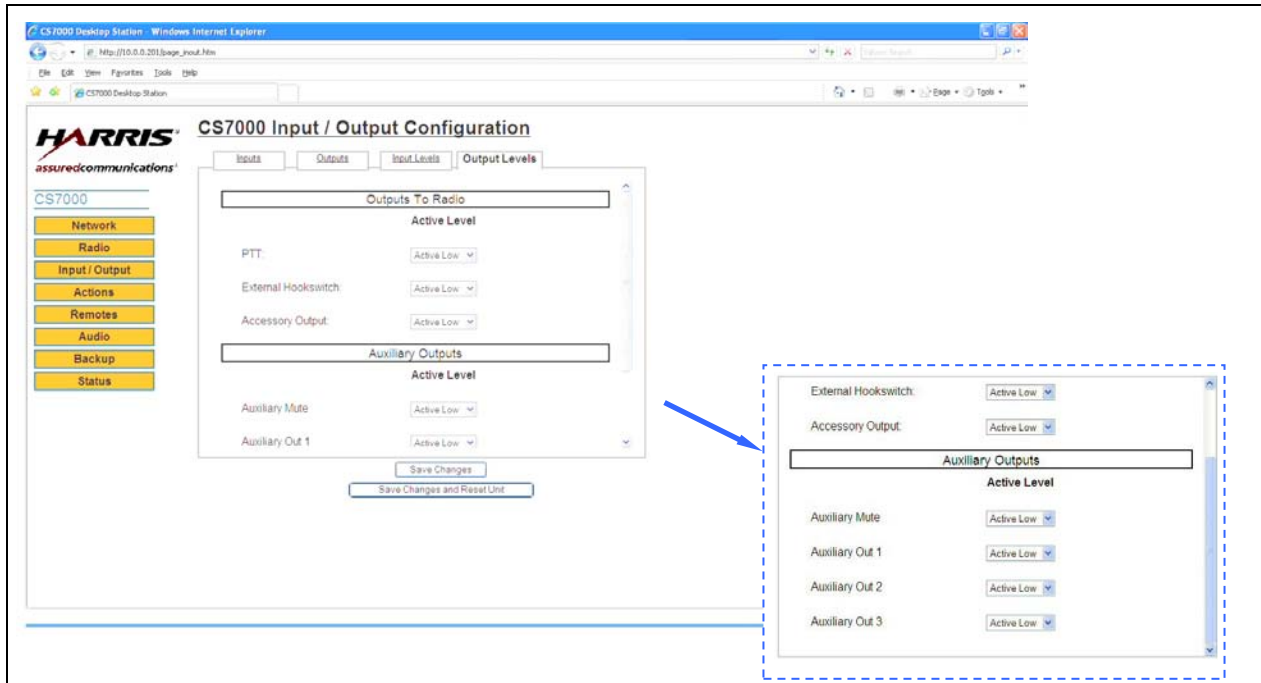

Figure 8-17: CS7000 Input/Output Configuration Web Page—Outputs Levels Tab (Example)
4. Configure the polarity for Auxiliary Output 1 on the Output Levels Tab. See Figure 8-17.
The CS7000 Input/Output Configuration web page's Output Levels tab is shown in Figure 8-17.